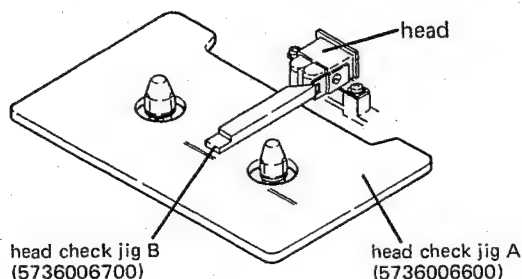
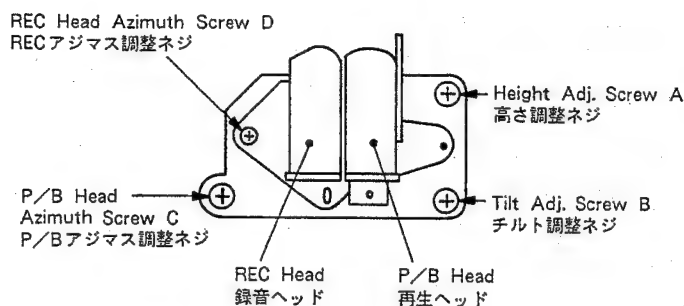

Fig. 5-2
Fig. 5-4
2. Adjust height adjusting screw A shown in Fig. 5-4 so that tip of non-marked side of the jig B does not touch the guide of the rec/PB head, but the red marked side touches the guide.
Adjust tilt adjusting screw B (Fig. 5-4) as required. After completion of the adjustment, make sure the head height adjustment is not upset, using the step 2 above.
2. 治具 B の無印側では録再ヘッドのガイドに当らず赤マーク側でガイドに当るように図5-4のヘッド調整ネジ (A) で調整する。(図5-2)
調整はネジ (B) で行なう。(図5-4)